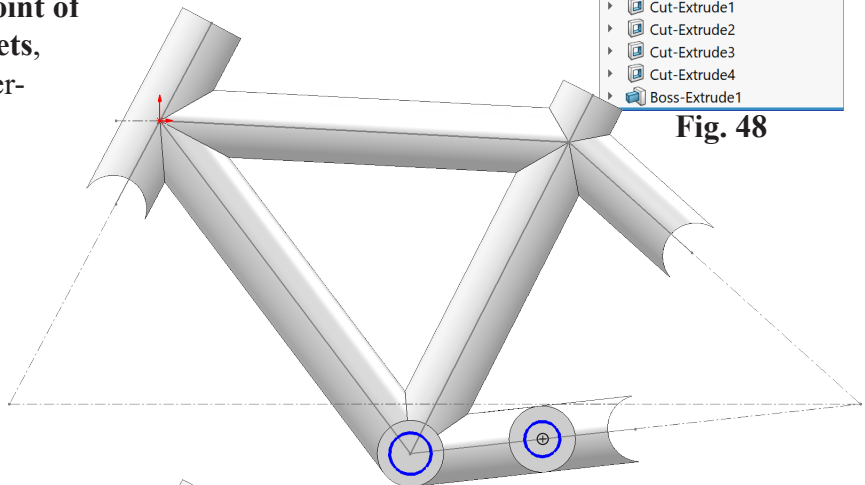

**Fig. 48**
Step 1. Click **Right Plane**  in the Feature Manager and click **Sketch**  on the context toolbar, **Fig. 48**.